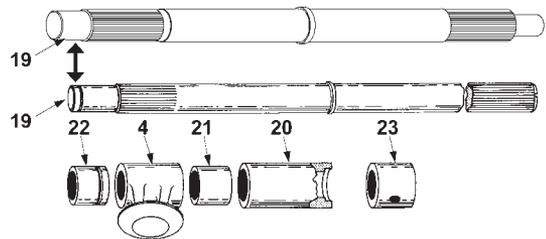

Figure 9
- B. Place the valve body (1) on a flat surface so that the seat is down.
- C. Coat the lower guide bushing (22) with recommended lubricant and insert into the body.
Note: The groove in the guide bushing (22) must be towards the body center. Refer to Figure 9 for correct assembly sequence. If the shaft (19) is the previous design it may have a circular groove, if so, install the retaining ring (18).